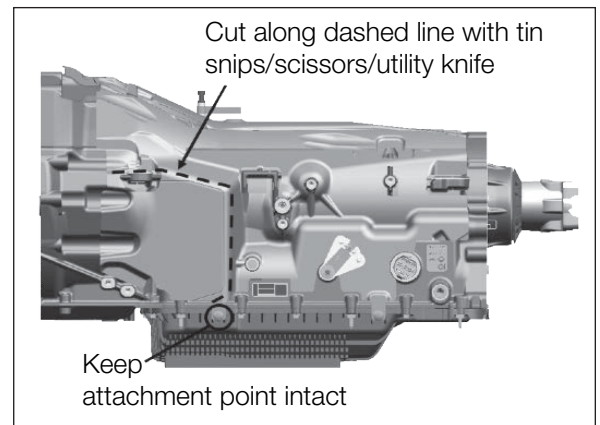

Figure 8
1. If NVH Cover is installed over PTO opening, cut away portion of the cover as described in Ford SVE Bulletin Q-300 (available at [www.fordbbas.com](http://www.fordbbas.com), see **Fig. 8**). Exercise caution when removing cover. Avoid any damage or severing of transmission, wiring, and fluid lines.